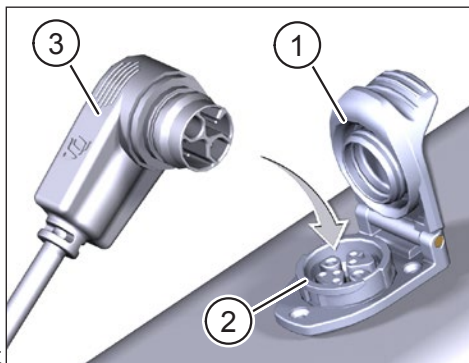

Fig. 1: Battery charging
- ▶ Unfold the cover (pos. 1 in Fig. 1) on the charging port (pos. 2 in Fig. 1) in the bike frame.
- ▶ Align the charging plug (pos. 3 in Fig. 1) of the charger or Range Extender so that the plug codes of the charging plug and charging port match (see Fig. 1).
- ▶ Insert the charging plug (pos. 3 in Fig. 1) of the charger or Range Extender into the charging port.